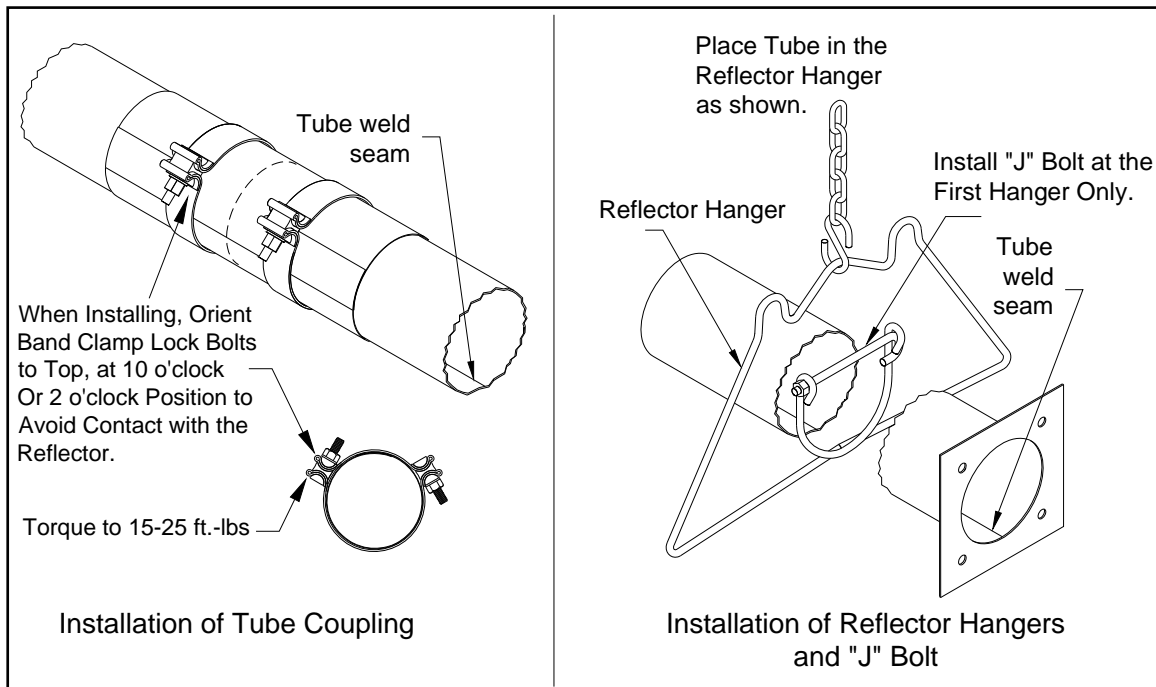

Figure 9: “J” Bolt and Coupling Installations
- Tighten the cradle loops of the first hanger with the “J-Bolt” found in the burner box, to snugly hold the combustion tube from rotating (Figure 9).
**Note:** *In order to obtain smoothly sealed coupling liners, tighten each of the coupling bands progressively and alternately. Tightening one band completely before the other may result in an undesirable wrinkle in the liner (Figure 9). Be sure not to over torque the coupling. (Torque coupling to 15-25 ft-lbs).*